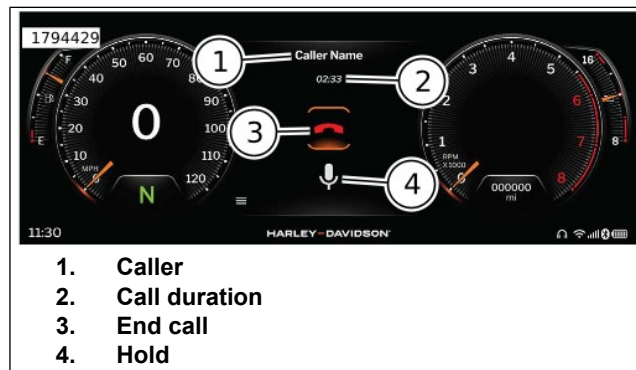

Figure 73. In Call Functions
5. See Figure 73. To place caller on hold, select hold (4) and press OK/enter. Press OK/enter again to remove from hold.
6. To end call, select end call (3) press OK/enter.
See Figure 73. To end the call select end call (3).